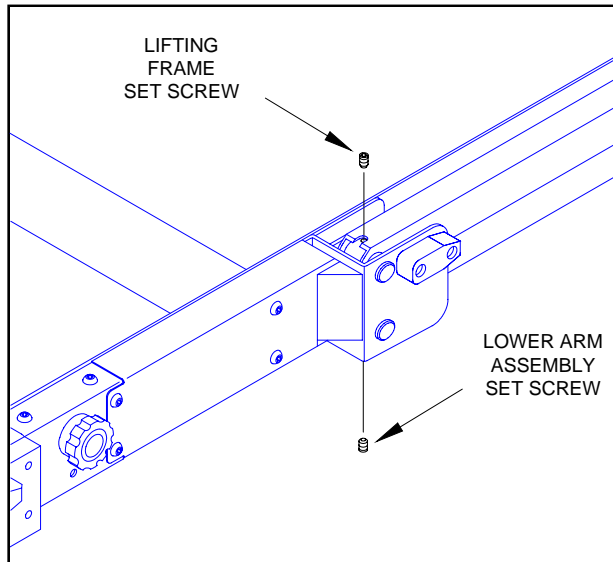

FIGURE 4-11: LIFTING FRAME AND LOWER ARM SET SCREWS
- b. Refer to **Figure 4-11**. Remove lifting frame and lower arm assembly set screws at left and right sides of platform.